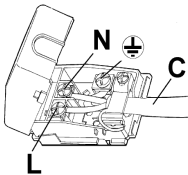

FIG. 13
- Fit the wires following FIG.13